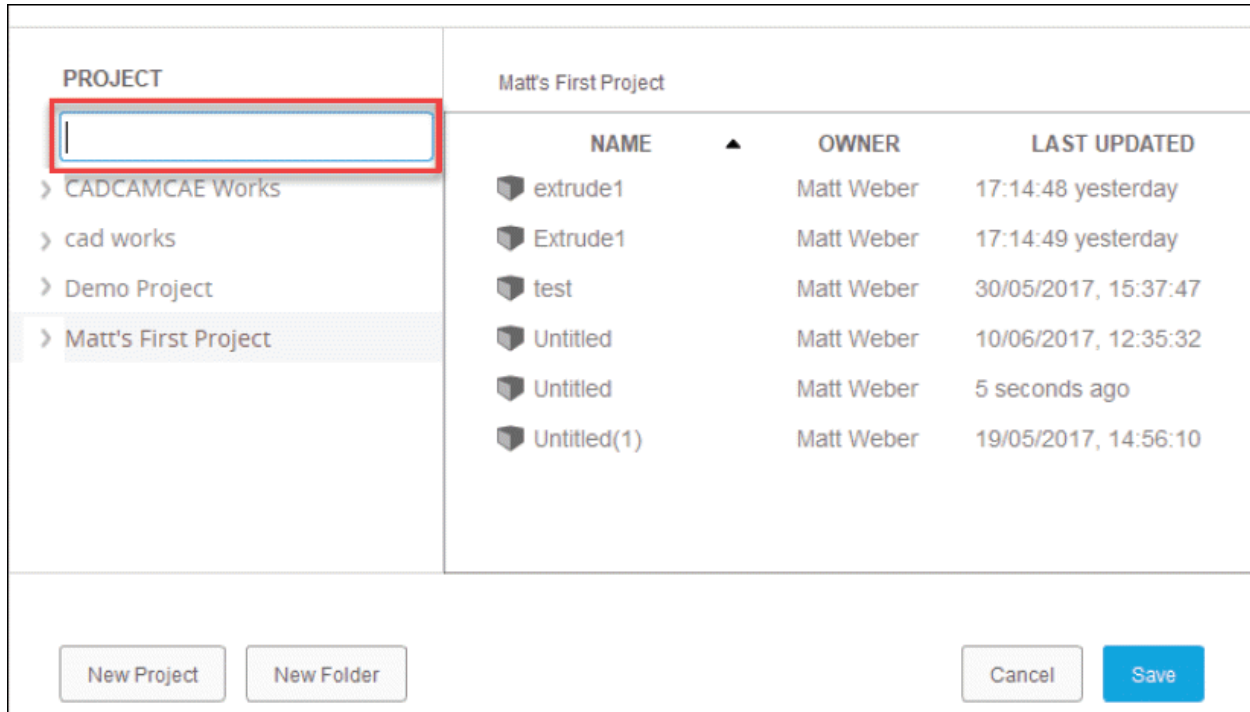

Figure-25. Specifying project name
- By default, Demo Project is added in the Project list. To add a new project, click on the **New Project** button at the bottom left corner of the dialog box. You will be asked to specify name of the new project; refer to Figure-25.